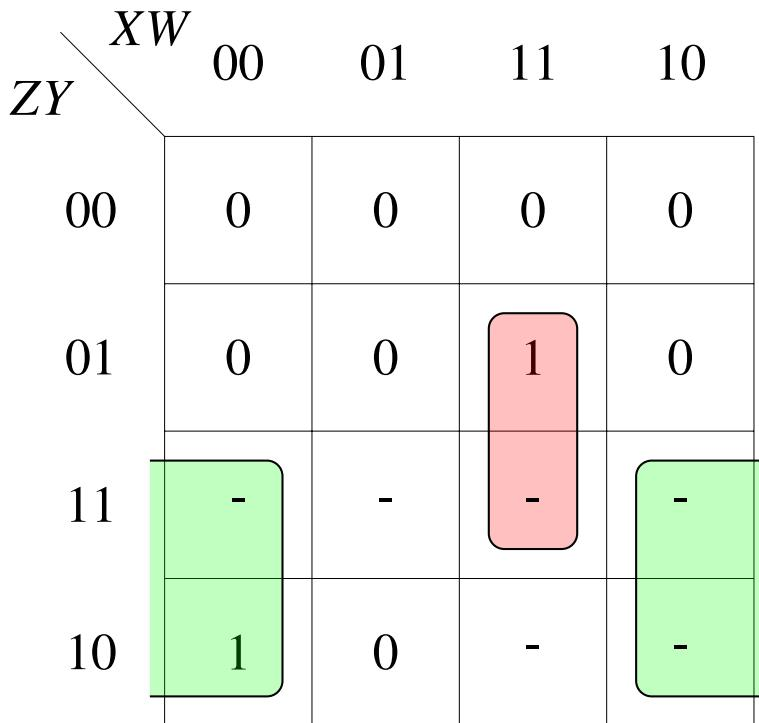

Fig. 4.8: K-map for D with don't care conditions
5. The revised K-map for D is available in Fig 4.8 Show that